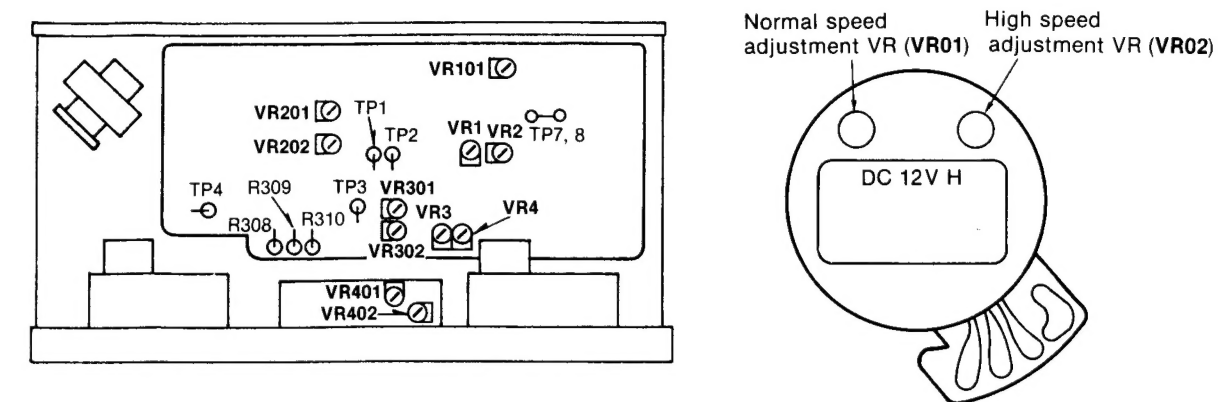

Fig. 1
ly (see fig. 1).
3. Play the test tape (QZZCWAT) with the TAPE 1 and measure the playback signal frequency. If the playback signal frequency does not conform to the standard value, adjust the high speed adjustment VR02 for the TAPE 1 head (See fig. 1).
3. Play the test tape (QZZCWAT) with the TAPE 1 head, and measure the playback signal frequency. If the playback signal frequency does not conform to the standard value, adjust the normal speed adjustment VR01 for the TAPE 1 head (See fig. 1).
1. If the measured value is not within the standard, adjust TAPE 1 VR1 (L-CH) or VR2 (R-CH), Tape 2 VR3 (L-CH) or VR4 (R-CH) (See fig. 1).
⑧ Erase current (TAPE 2)